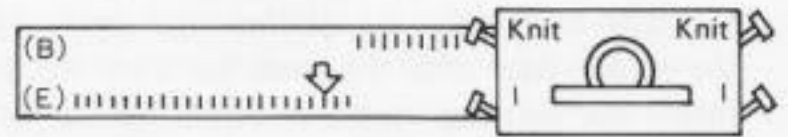

Fig.59
- Set both guide cam levers to "KNIT" and return cam levers to No.1 on each side of the carriage. (Fig.59)
- At the opposite end to the carriage bring forward into position (E) the required number of needles – see also Fig.59, and knit one row.